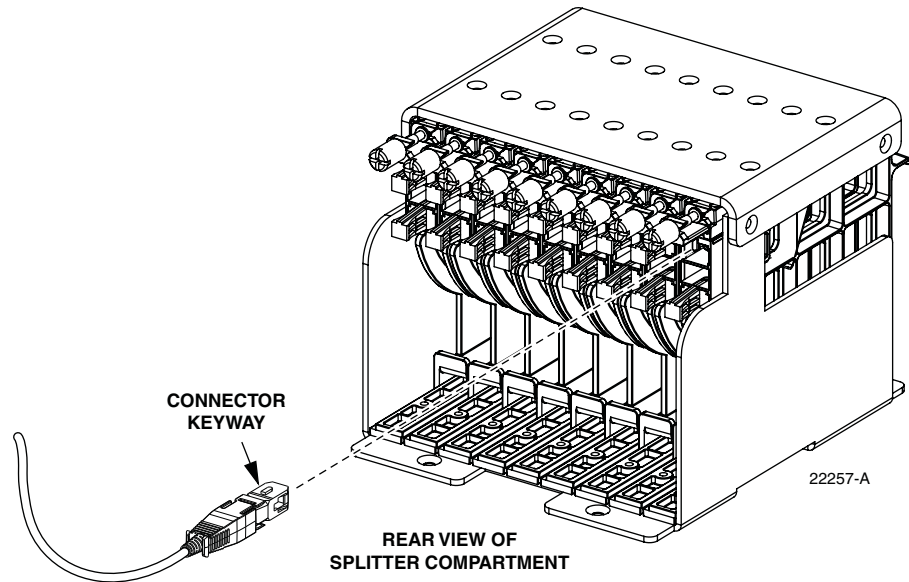

Figure 60. Feeder Cable Connector
4. Remove the corresponding feeder cable connector(s) from the rear of the splitter compartment as shown in Figure 60.
3. Remove the feeder cable connector(s) from the rear of the splitter compartment (see Figure 60).